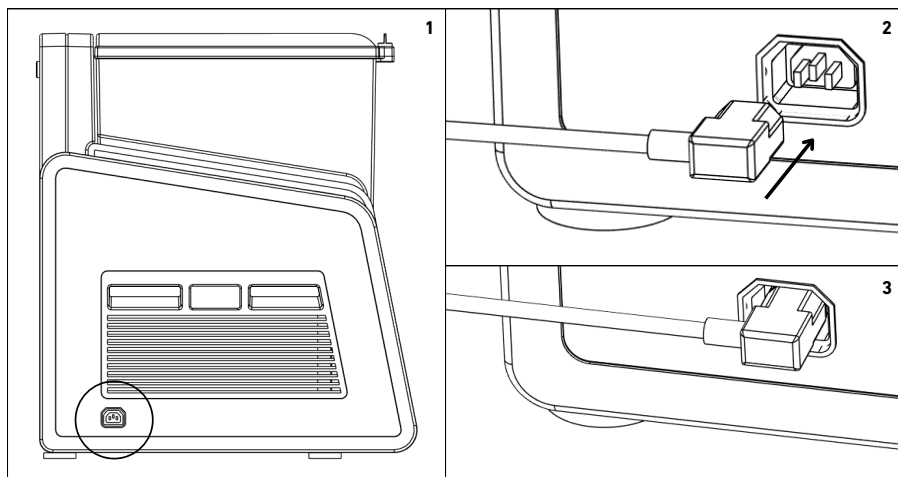

Figure 34
22.7.1. Connect the power cord to the device as shown in Figure 34.